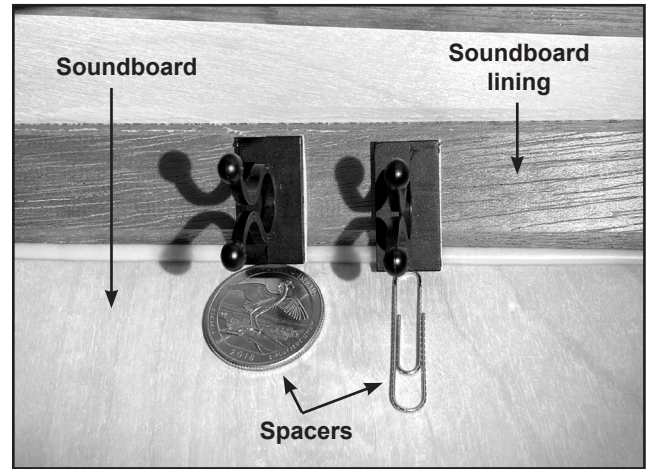

Figure 6 – Example Spacers
3. Use the spacer to position the bottom edge of the clip up off the soundboard (*see figure 6*).